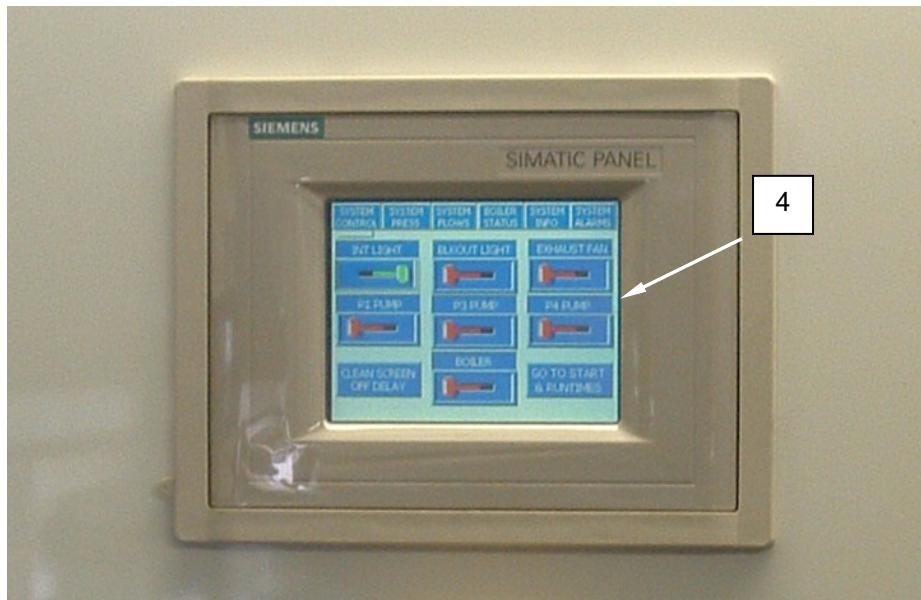

Figure 4. Nanofilter Cleaning Procedure – Switch P-4 Off.
5. Switch Pump P-4 (Figure 4, Item 4) OFF at the PLC.